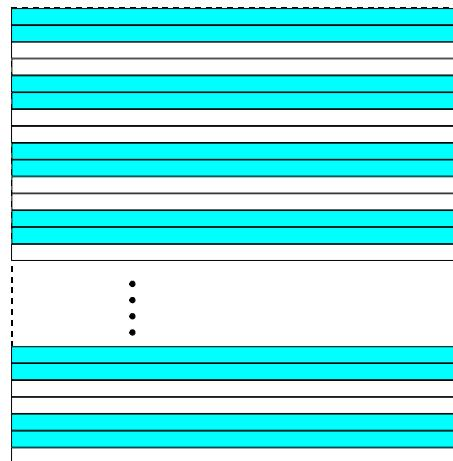

Fig. 99: Decimation of 2 (Color Cameras)
- 2 for color cameras: only every second pair of rows of the acquired frame will be transmitted out of the camera (Figure 99).